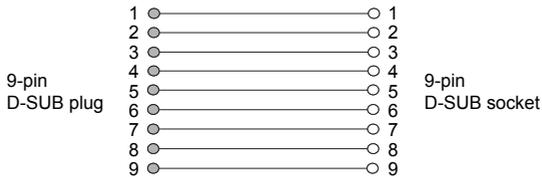

Fig. 19
- Use a "one-to-one cable" (see fig. 19 for circuit) to connect the control unit's RS 232 interface and the PC.